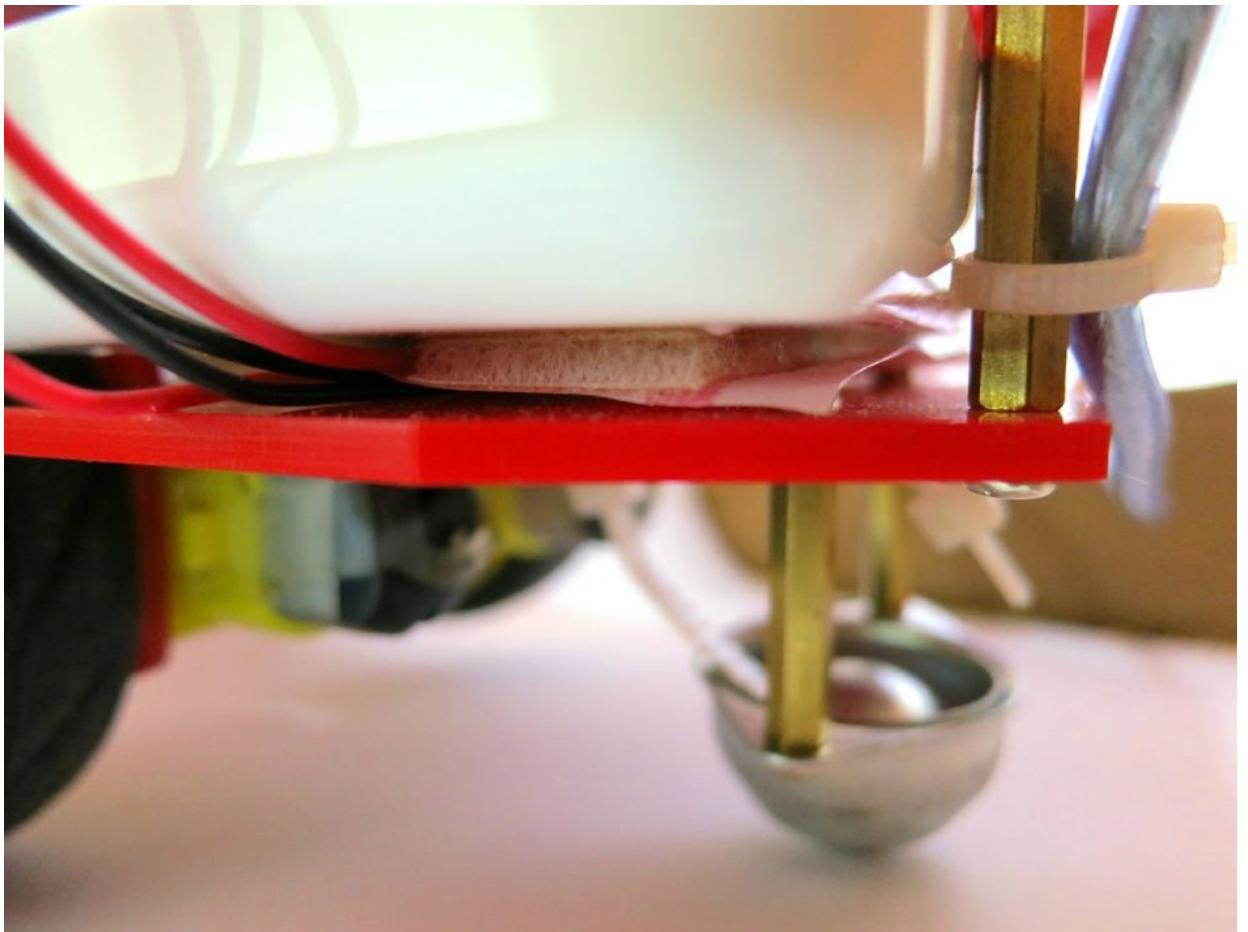

Figure 4-4. Velcro to hold down the battery
2. Now would be a good time to affix the Velcro to the back of the battery and lower platform (Figure 4-4). Using Velcro allows you to easily access it or replace the battery without having to disassemble the entire chassis.